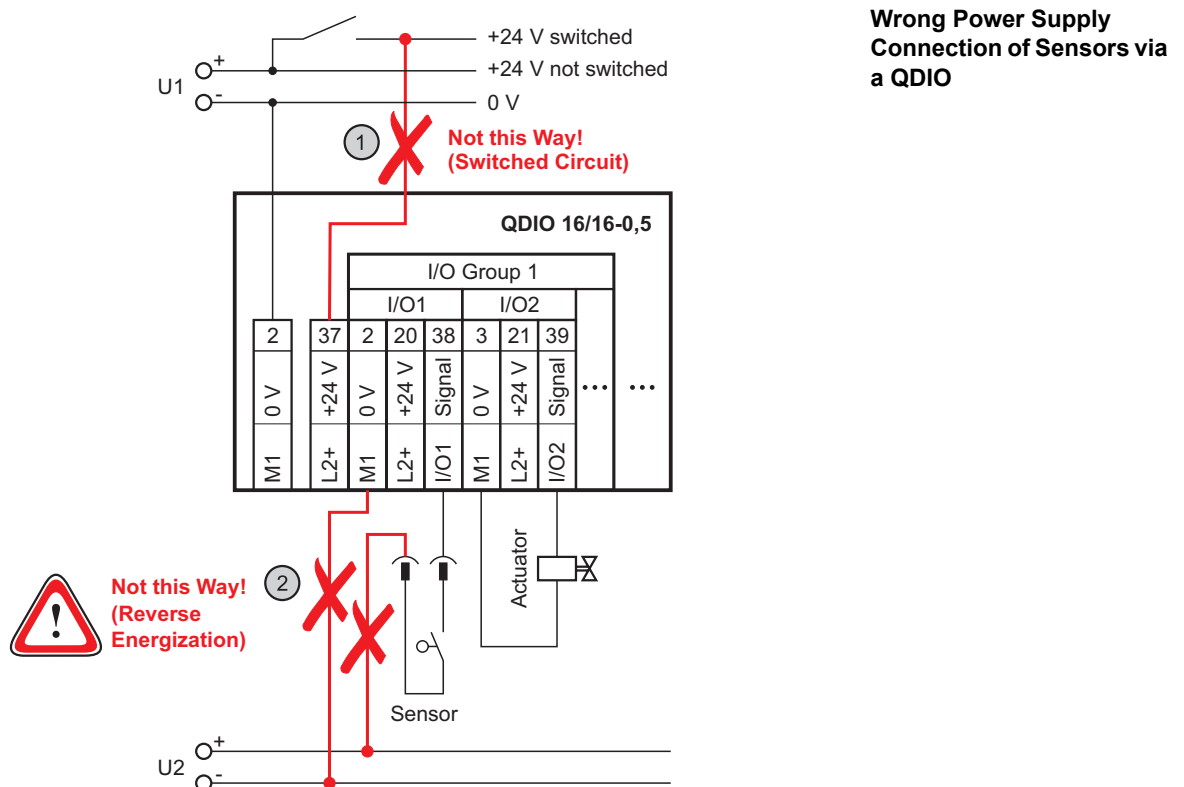

Figure 32: Wrong Power Supply Connection of Sensors via a QDIO
- ① The attached sensors must be supplied with power from a permanently connected (unswitched) power supply that cannot be individually switched off, without switching off the module's power supply. Power must not, as shown in figure 32 on page 45, be supplied from switched power circuits!
- ② The sensors within an I/O group must always be supplied with power from the same power supply that supplies the relevant I/O group. They must not, as shown in figure 32 on page 45, be supplied from a separate power supply (due to the danger of reverse energization)!
- ③ Outputs may be supplied with power from a switched power supply, for example with intermediate devices (emergency stop, manual operation, etc.).